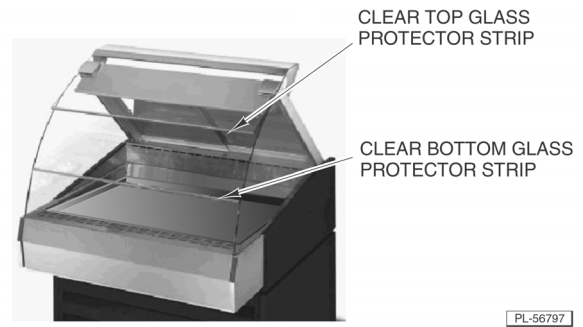

Fig. 37
- Install clear glass protector strip onto the top AND bottom self-service front glass (Fig. 37). (Self-Service only)